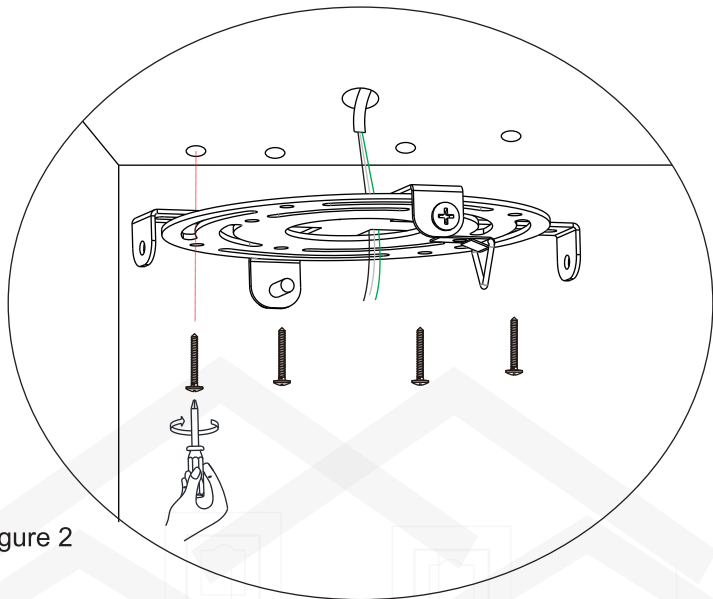

Figure 2
2. Install the ceiling hanging plate, and then screw it down.(Figure 2)